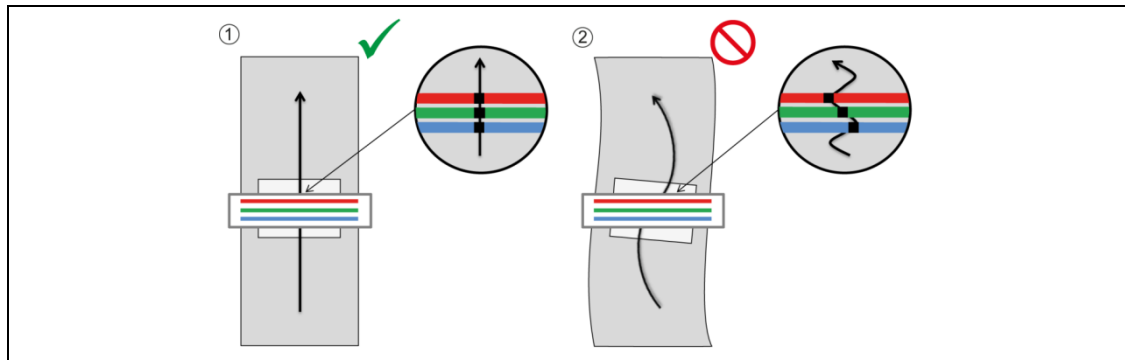

Fig. 15: Conveyor belt adjustment: minimize lateral oscillations
- Minimize lateral oscillations by adjusting the belt guide (see Fig. 15, p. 40).